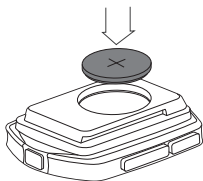

Figure 6. Battery Orientation During Installation.
- ✦ Insert the supplied battery (D) with the '+' facing up or out (Figure 6).